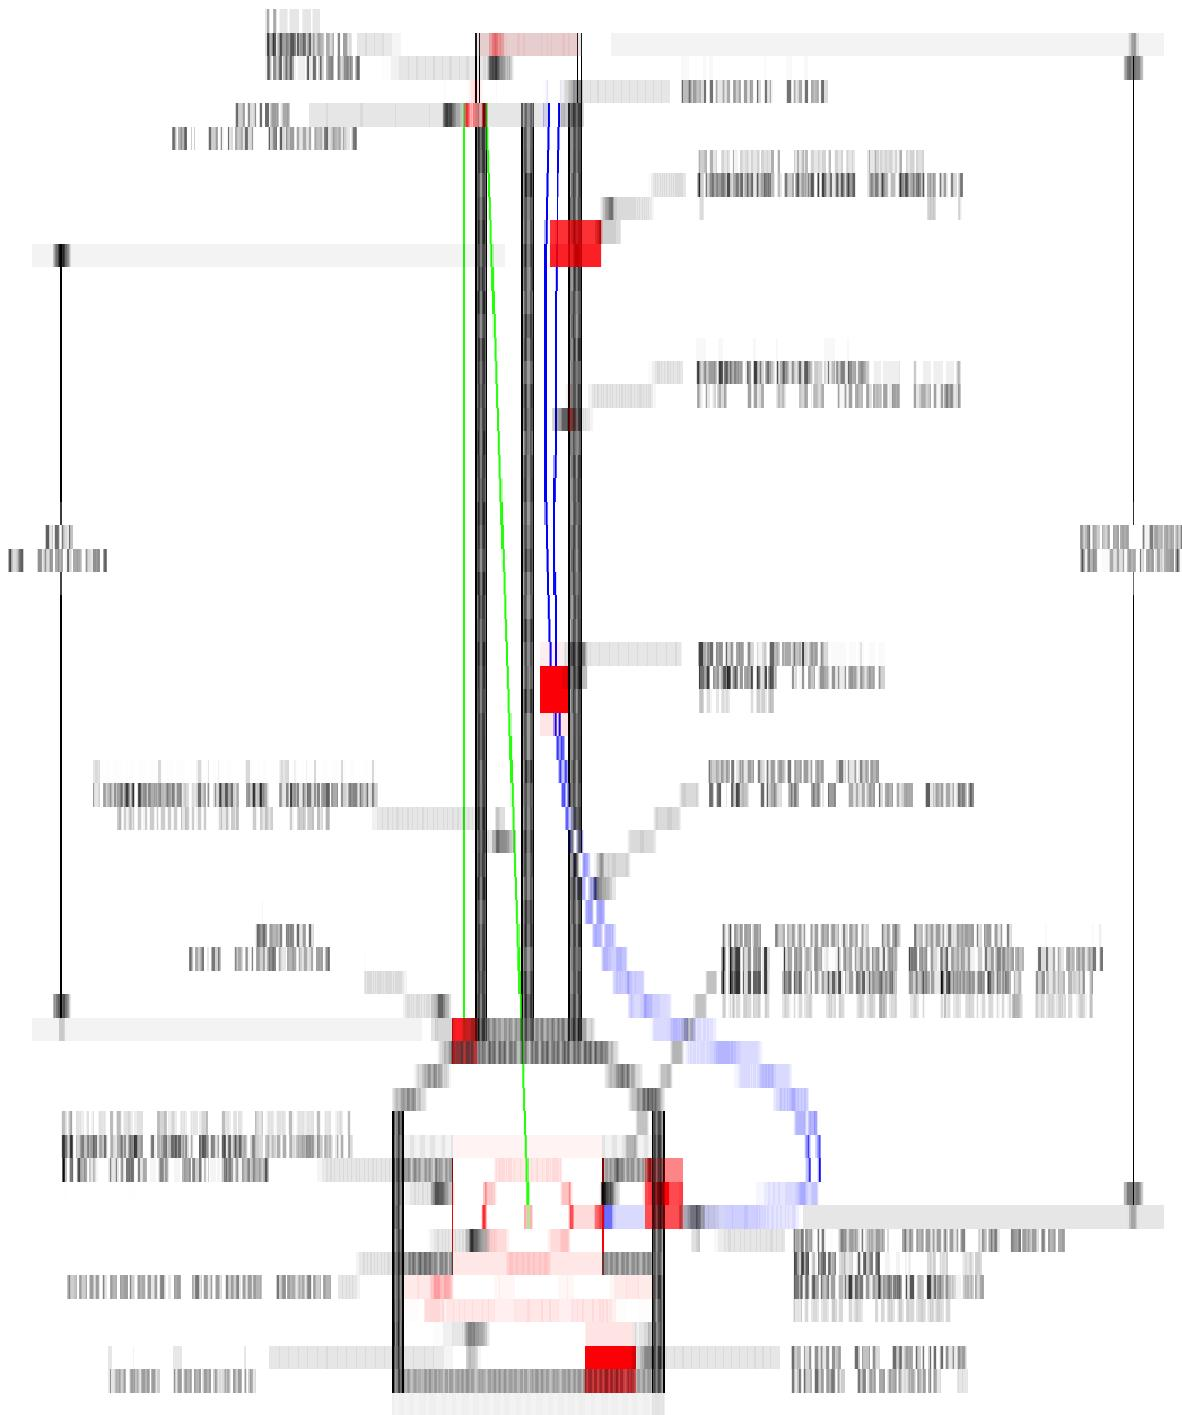

Figure 28. Schematic of test stand. Note: some of the dimensions are wrong in this figure; see item 6 above for the correct dimensions.
4. **Mounting your gadget to a board compatible with the test stand.** The gadget must be attached to a mounting board (*Figure 27*) (provided by AME) that is 20 inches wide and 15 inches in height. The mounting board will have two 1/2 inch holes drilled through it. The holes will be centered at a point 1-1/2 inches from the edges of the board nearest the two upper corners. These holes will be used to attach your board to support brackets on the test fixture (see *Figure 28*). **No part of your gadget can protrude beyond the 20 inch x 15 inch envelope of the board.** You can only use one side of the board.
5. **Plumbing.** The gadget will be connected to the test apparatus using a standard garden hose thread female connector (on the gadget) that connects to a male garden hose connector (on the test fixture) (see *Figure 28*). The male garden hose can be attached to your gadget anywhere on the board.
6. **The testing procedure.** Up to 30 liters of water will be allowed to flow, starting at a 4-meter elevation above the control valve centerline, through a conduit (a 1-inch ID (inside diameter) x 1.5-meter-long polyethylene tube) to a flow meter. From the flow meter, the water will run through another conduit (a 1-inch ID x 2.5-meter-long polyethylene tube) to the control valve, and then to your gadget. Your gadget will lift the 1.5 kg mass vertically 4 meters. A sump beneath the testing apparatus will collect water flowing out of the gadget; you don't need to do "water management." *Figure 28* is a sketch of the test stand.